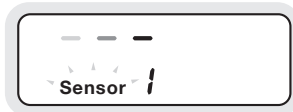

fig.8
9. Once tuning is complete, the SmartHub display will clear and display '0 Watts' (fig.8).